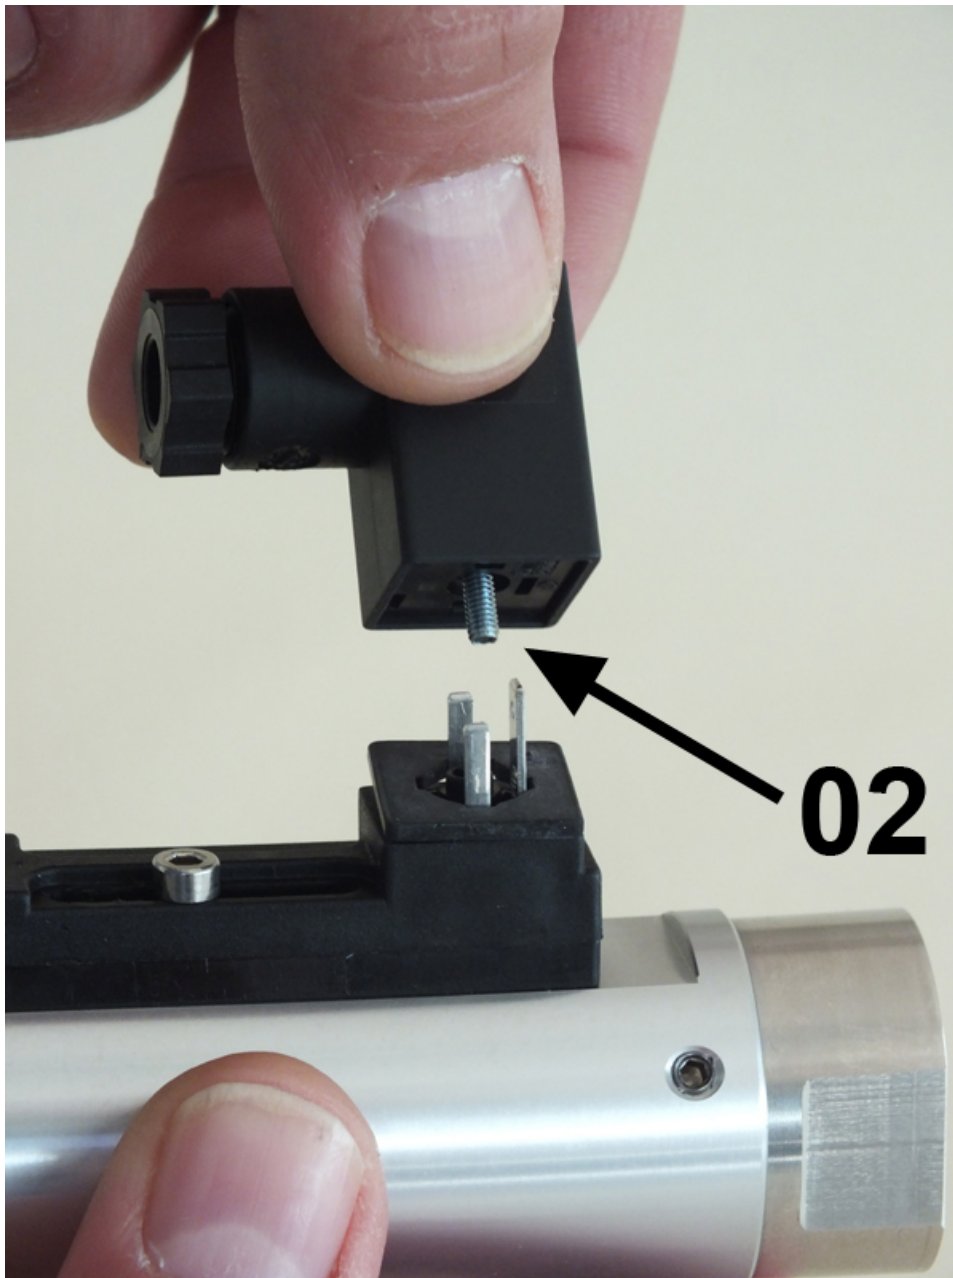

Fig. 22: Remove socket
2. ➤ Remove the socket (Fig. 22/02).